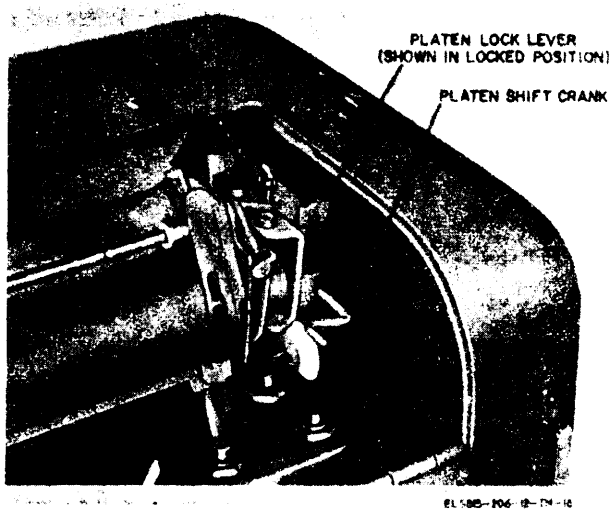

Figure 2-3. Platen lock (TT-537/G).
c. Platen Lock (TT-537/G) (fig. 2-3). The platen lock is used to lock the platen in the letters-shift position during transportation of the teletypewriter. To unlatch the platen, open the